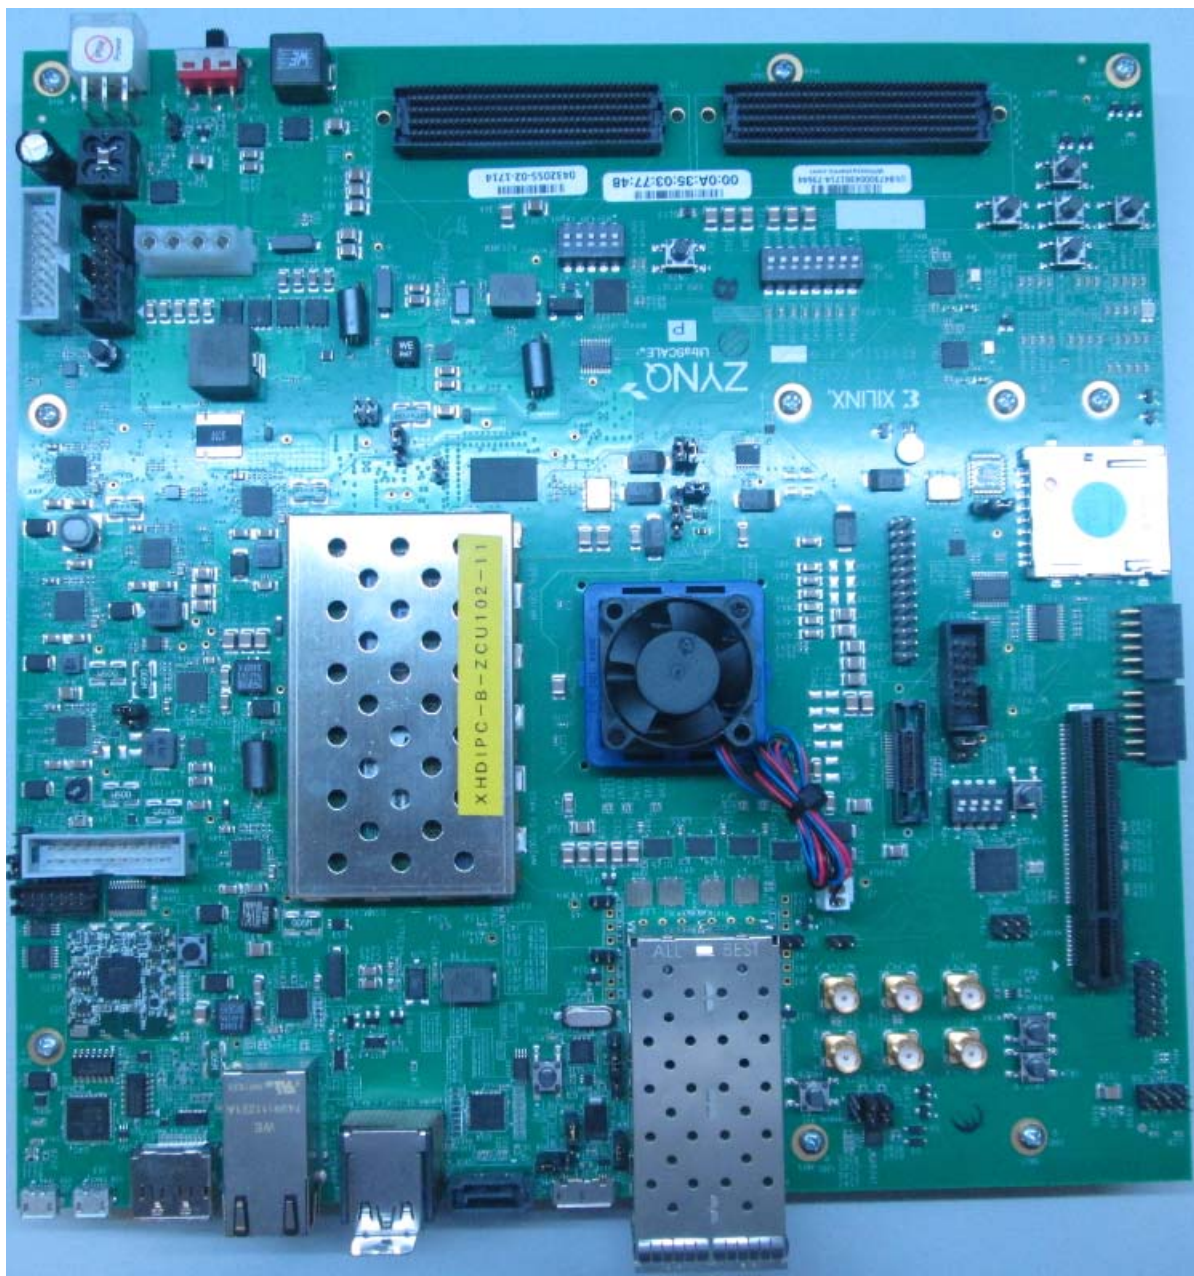

Figure 5-5: ZCU102 Board
- g. Ensure the board switches and jumpers are in position as shown in Figure 5-5. Ensure that all SW6 switches are set to the ON position to allow programming from JTAG.